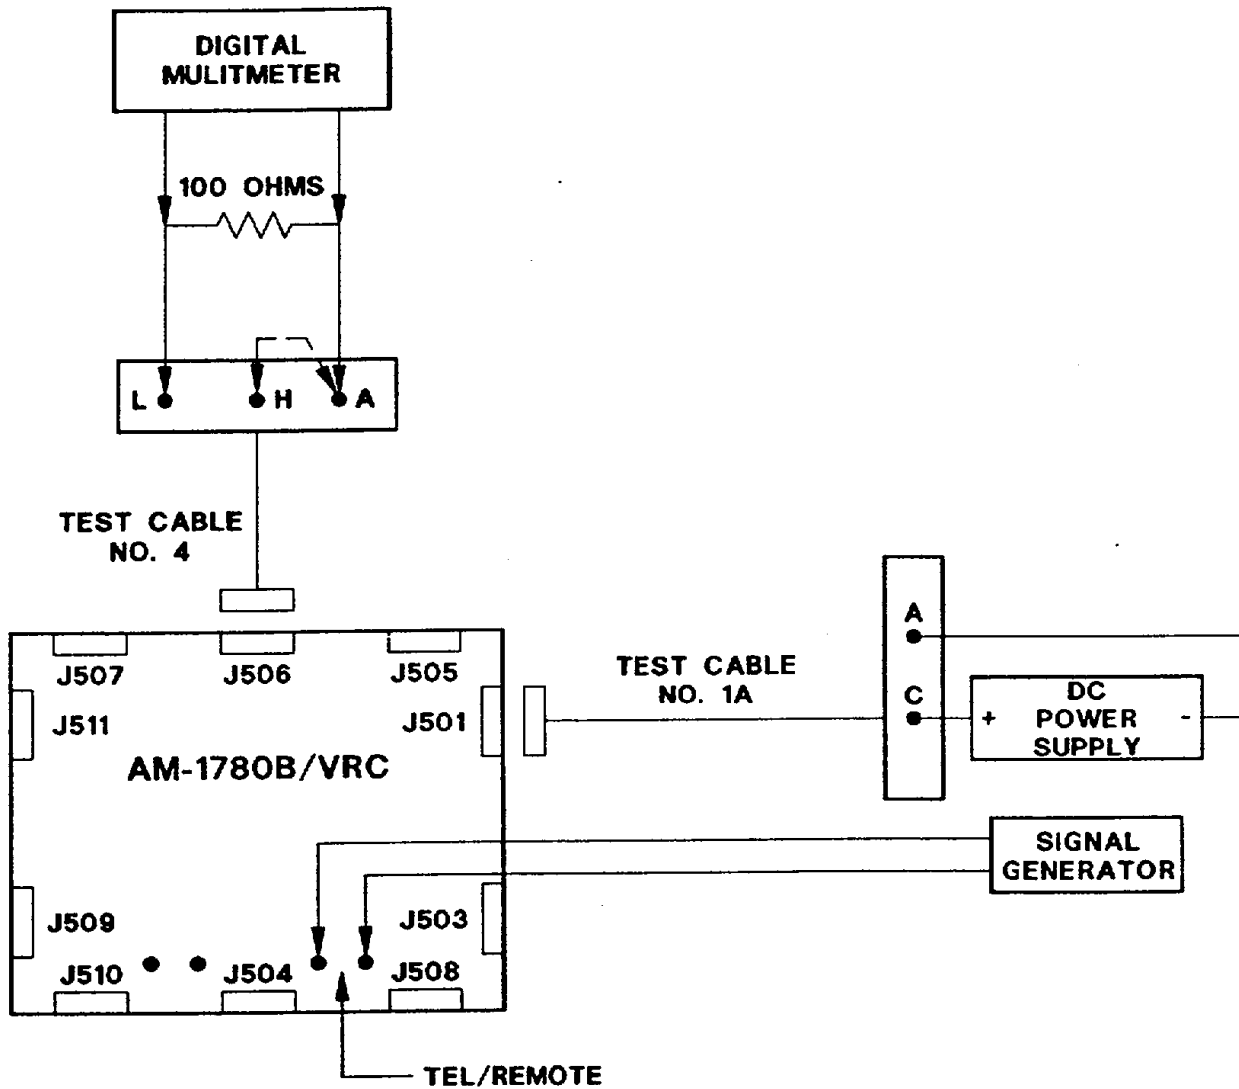

Figure 2-9. DS Test Setup I.
- a. Connect a signal generator across TEL/REMOTE binding posts E503 and E504 (fig. 2-9). Adjust the signal generator for an output of 1 kHz at 440 mvac.